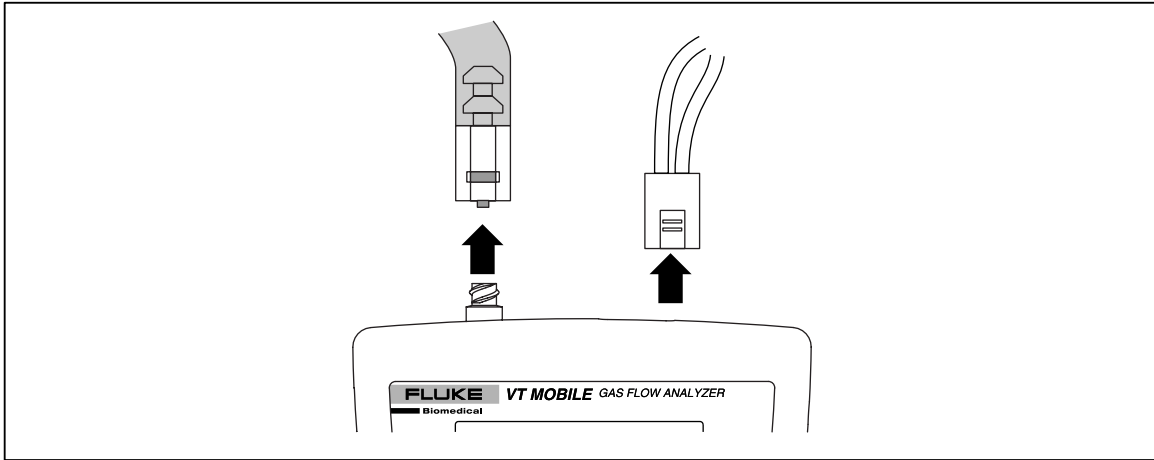

Figure 3-2. Flow Sensors and Pressure Adapters Disconnected
1. Place the Analyzer on a flat surface with sensors/adapters disconnected at the Analyzer (Figure 3-2.)